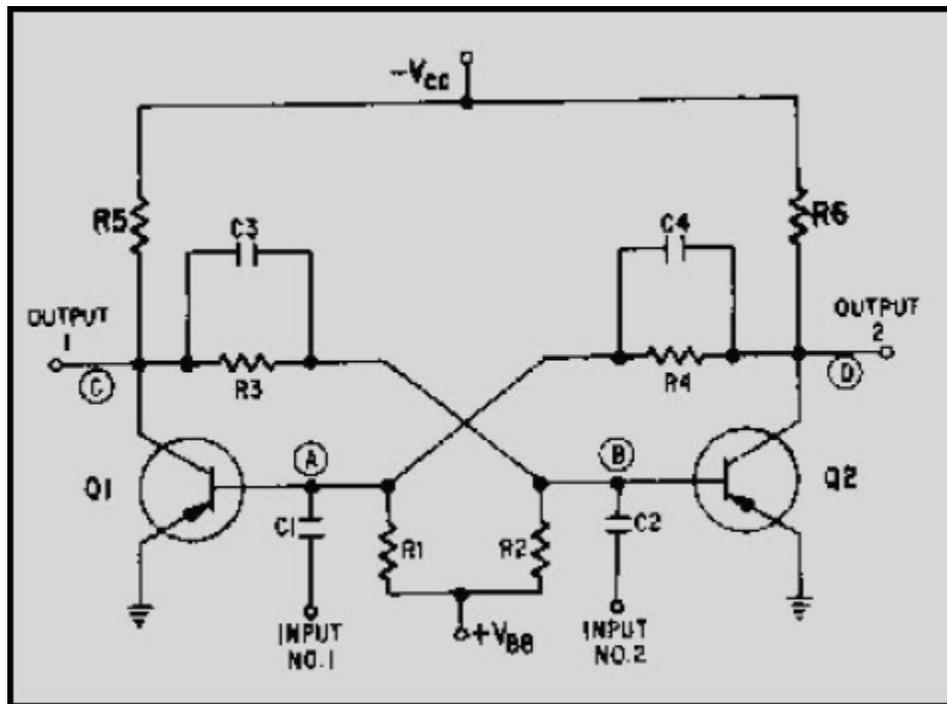

Figure 3-18 Basic flip-flop
The bistable multivibrator that most technicians know is commonly known by other names: the ECCLES-JORDAN circuit and, more commonly, the FLIP-FLOP circuit (figure 3-18). The flip-flop is a bistable multivibrator, "bi" meaning two; that is, the flip-flop has two stable states. The flip-flop (f/f) can rapidly flip from one state to the other and then flop back to its original state. If a voltmeter were connected to the output of a flip-flop, it would measure either a small positive or negative voltage, or a particularly low voltage (essentially 0 volts). No matter which voltage is measured, the flip-flop would be stable. Remember, stable means that the flip-flop will remain in a particular state indefinitely. It will not change states unless the proper type of trigger pulse is applied.
Notice that the basic flip-flop, illustrated in figure 3-18, has two inputs and two outputs. The inputs are coupled to the bases of the transistors and the outputs are coupled from the collectors of the transistors. Think of the flip-flop as two common-emitter amplifier circuits, where the output of one amplifier is connected to the input of the other amplifier, and vice-versa. Point (D) is connected through R4 to C4 to point (A). Point (A) is the input to transistor Q1. By the same token, point (C), which is the output of Q1, is connected through R3 and C3 to the input (point (B)) of transistor Q2.